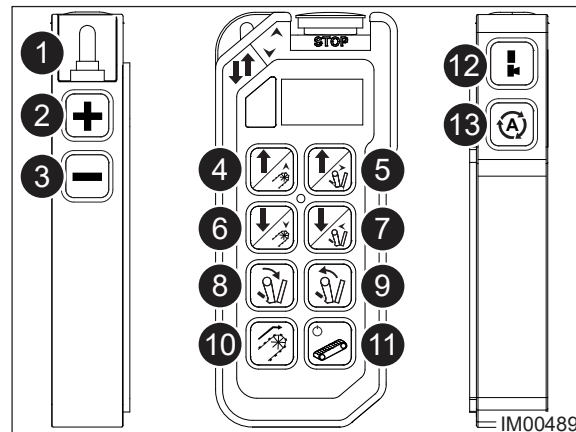

Fig. 8.5 - Radio Remote Handset
7. On the radio remote handset, push the Toggle Switch (Item 1, Fig: 8.5) to the Right, Machine Setup Position.
8. On the right side of the radio remote, press the Power On/Off button to turn on the handset (Item 12, Fig: 8.5).
10. On the right side of the radio remote, press the Auto Run button (Item 13, Fig: 8.5).
13. At anytime the operator can perform a short reverse cycle by pressing the Reverse button on the radio remote handset (Item 9, Fig: 8.5). This can help aid in breaking up abrasive materials more quickly.